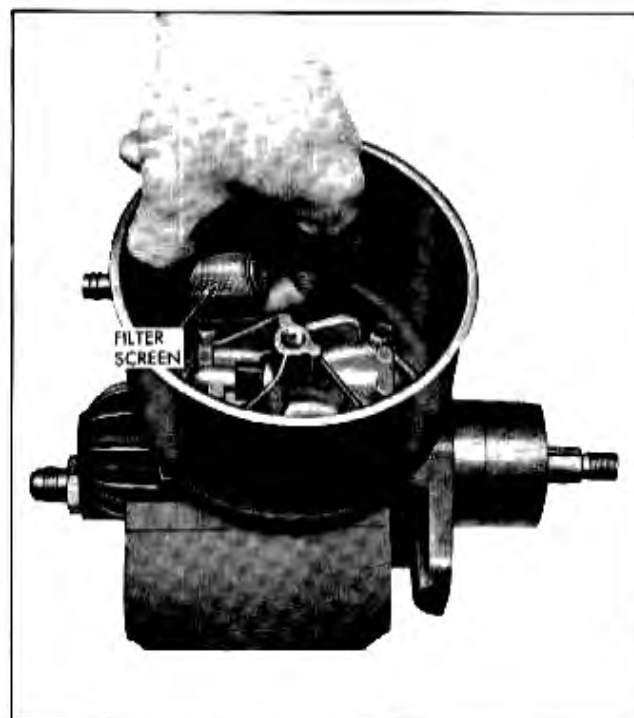

Fig. 9-70 Removing Filter Screen Assembly
3. Remove filter screen and retainer assembly by lifting up at center (Fig. 9-70).